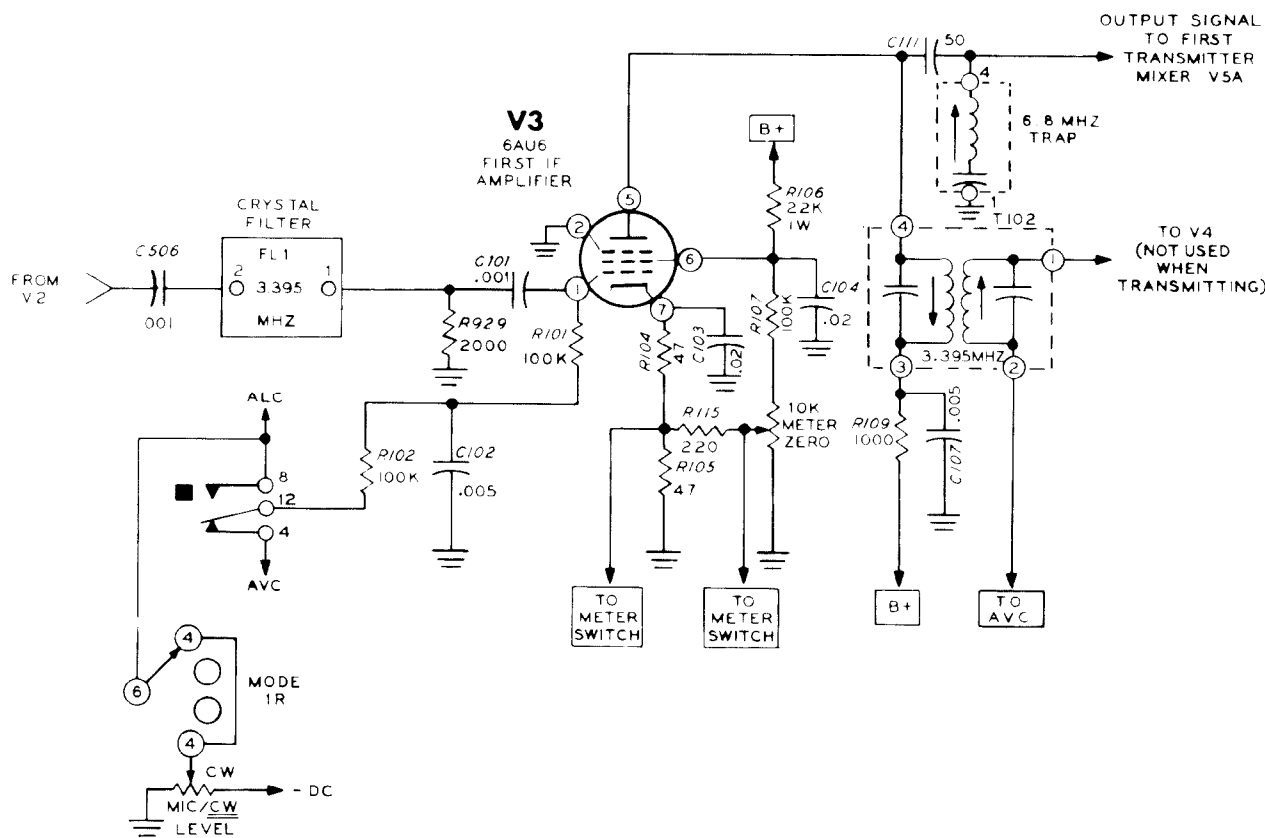

Figure 2-11
**IF AMPLIFIER (Figure 2-11)**